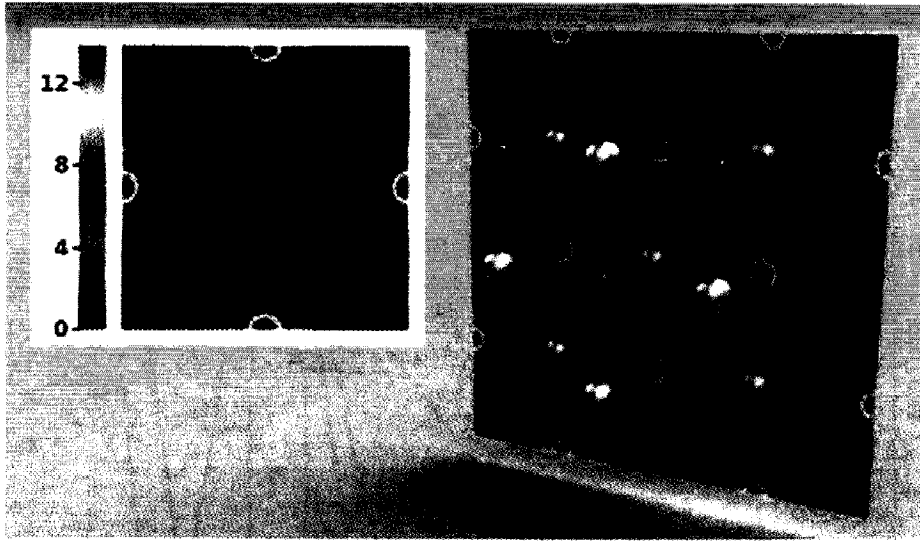

Figure 3.
2. a) Identify the type of primary bonding in LiF shown in Figure 3. Justify your answer based on the electron density distribution shown in Figure 3 (2p).